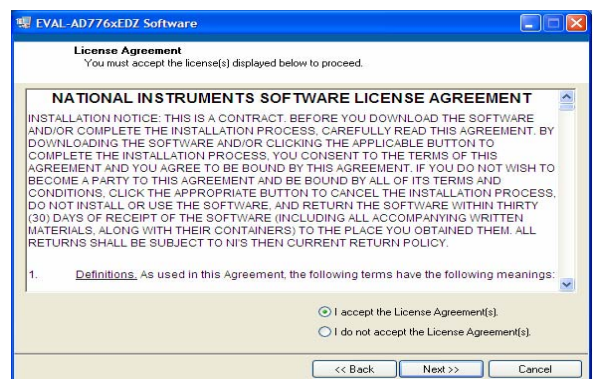

Figure 4. Accept license agreement
4. Accept the license agreement by selecting the correct option and clicking “Next” as shown in Figure 4.